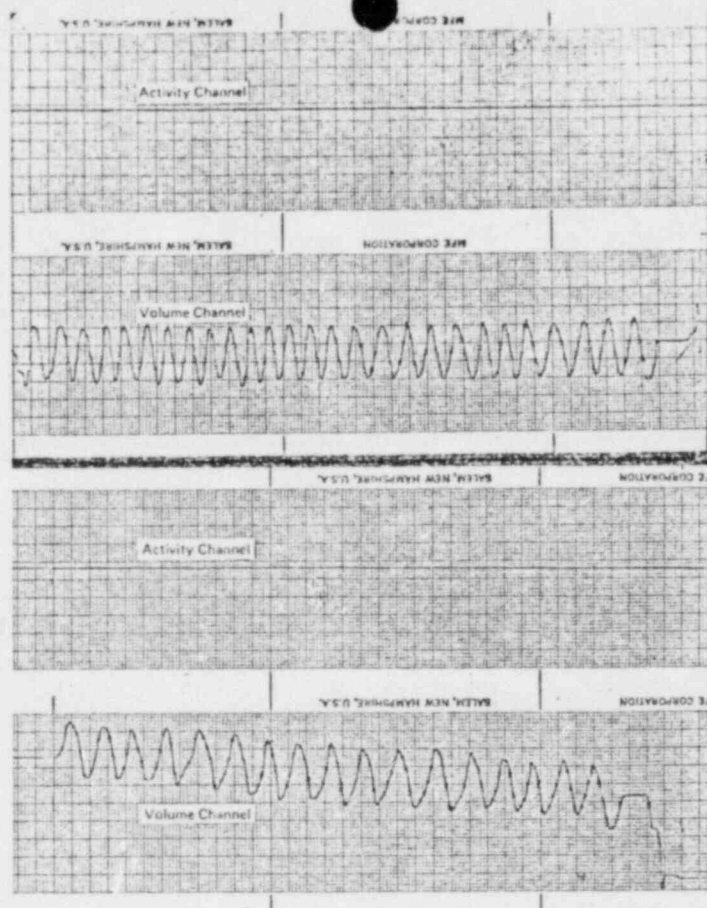

Figure 19.
- 1) This is most easily and accurately accomplished by using the dual strip chart recorder. The patient's normal breathing pattern will appear graphically as a sine wave. Since  $O_2$  consumption and  $CO_2$  adsorption will represent a net volume loss in a closed loop, unless the  $O_2$  is resupplied at the consumption rate, this net loss will be represented by the average spirometer volume drifting toward the zero baseline. (See Figure 19.)